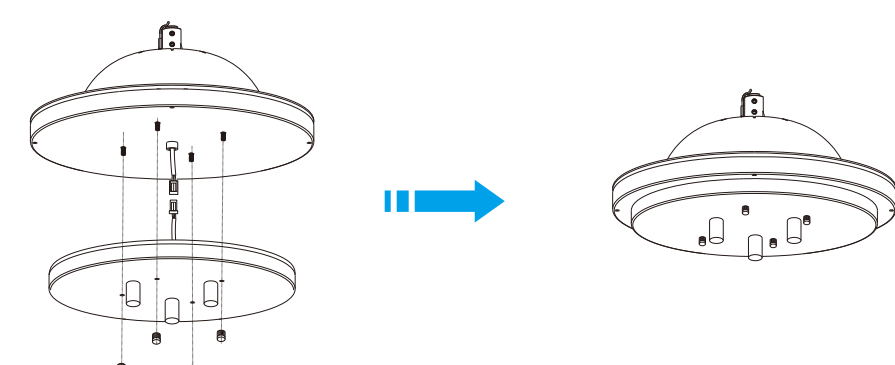

Fig 1.2
- Connect the wires between the fan motor and light kit plate. Attach the light pan onto the base plate of the motor hub. Align the 4 holes on the light kit plate with the 4 pre-assembled garnish bolts on the base plate. Place back the 4 nuts that were removed in this step. Tighten all nuts and screws securely as Fig 1.2.)